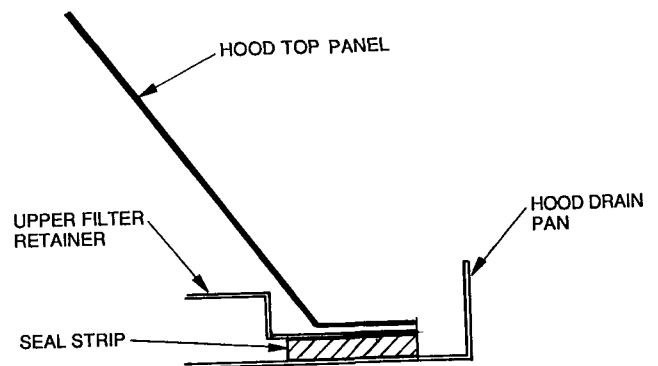

Fig. 17 – Seal Strip Location (Air Hood Cross-Sectional View)
1. Attach seal strip to upper filter retainer. See Fig. 17.